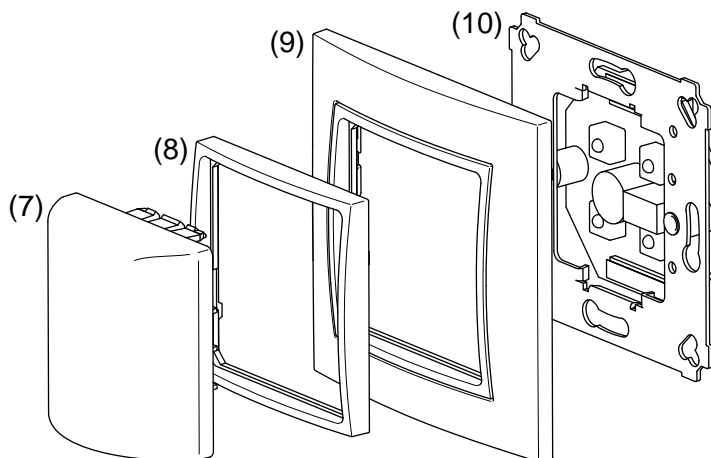

Figure 9: Assembly, illustrated using the example of the pilot lamp
- (7) Central plate pilot lamp
- (8) Adapter ring
- (9) Frame
- (10) Insert
- Screw insert (Figure 9, 10) of the device on the supporting ring to the wall box.
- Pull the frame and adapter ring over the supporting ring and attach the central plate (Figure 9, 7 - 9).